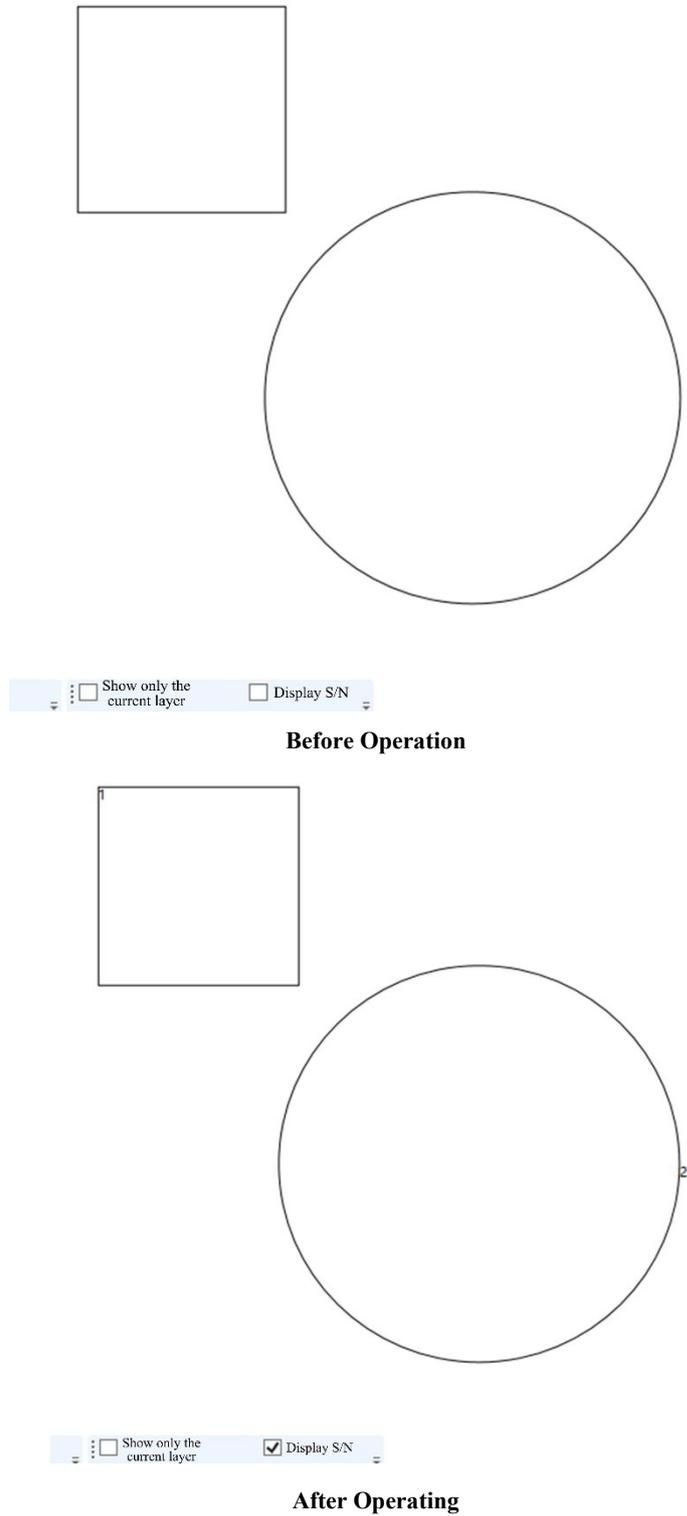

Fig. 6.5.2 Schematic Diagram of Operation
② Select the "Display Serial Number" option. Observe the canvas display, as shown in Fig. 6.5.2 below.